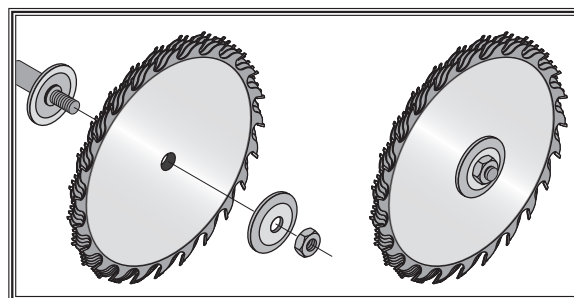

Figure 82. Installing a dado blade.
6. Install the dado blade on the arbor shaft, as shown in **Figure 82**.